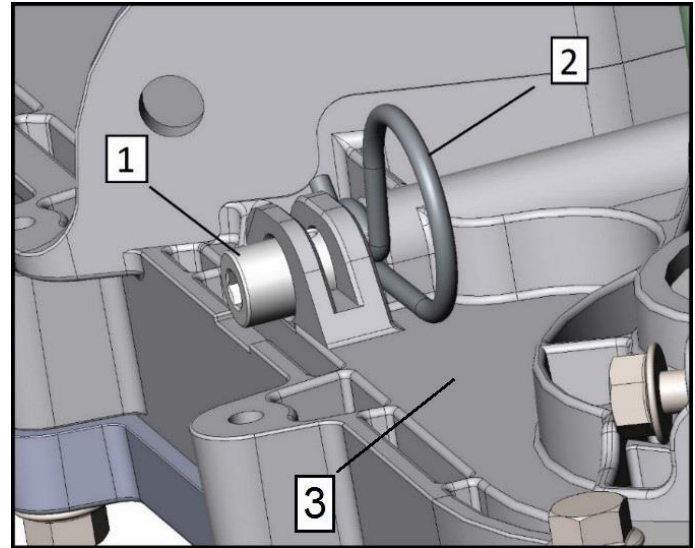
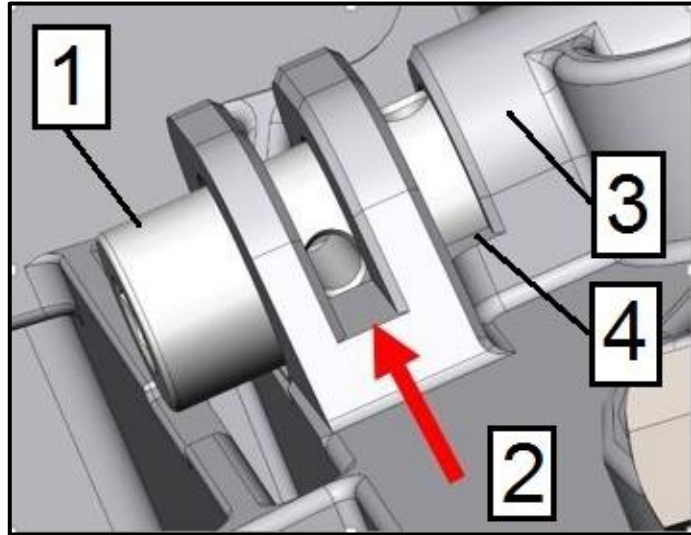

Fig. 29
Fig. 30
1. Lift the rear of the snowmobile so that the caterpillar does not touch the ground. Take out the fixing pin (pos.1, Fig. 29) from the adjusting screw (pos.2, Fig. 29) on the back of the housing.
3. Make sure that one hole in the screw, the first or second hole in motion, and the first or second hole in motion match the corresponding groove in the housing, and the first or second hole in motion. For example, according to (pos.2, Fig. 30), the second hole is in motion. Make sure that the fixed cotter pin (position 2, figure 29) is installed in the combined hole and groove (position 2, figure 30).